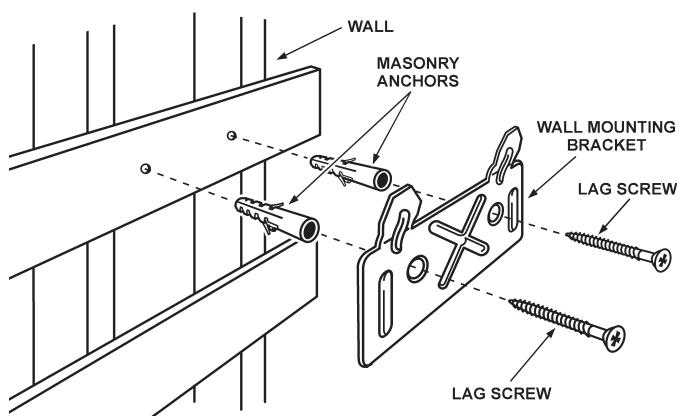

FIGURE 3A.
4. Cut two sections of 1/2 inch plywood or equivalent material 3 inches in height. The length of each section should be sufficient to span the width of the wall studs. See Figure 3A.
5. Use appropriately sized nails or wood screws to attach the two wall supports to the wall as shown in Figure 3A.